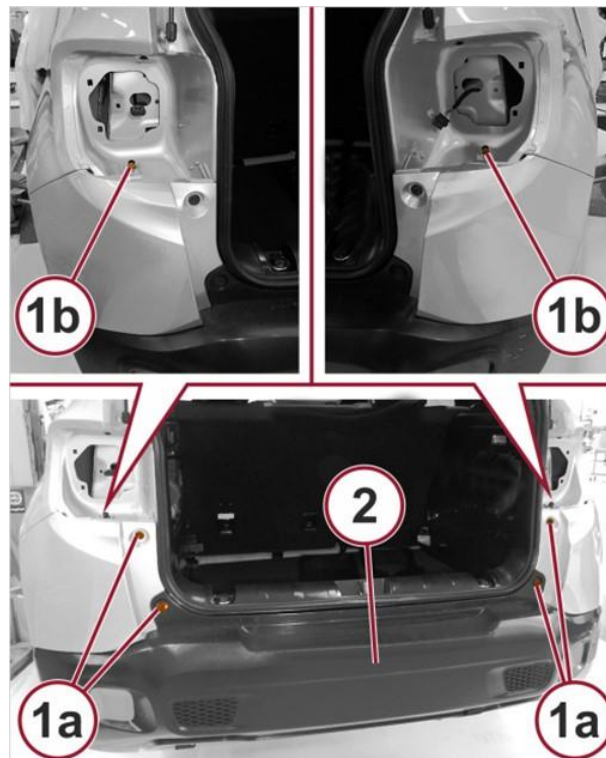

Figure 10 – Rear Fascia
- 18. Remove the screws (1a and 1b) (Figure 10).
- 19. Partly remove the rear fascia (2) (Figure 10).
27. Position the rear fascia (2) and install the screws (1a and 1b). Tighten the screws securely (Figure 10).
28. Install the screws (2a and 2b) on both sides of the rear fascia. Tighten the screws securely (Figure 10).